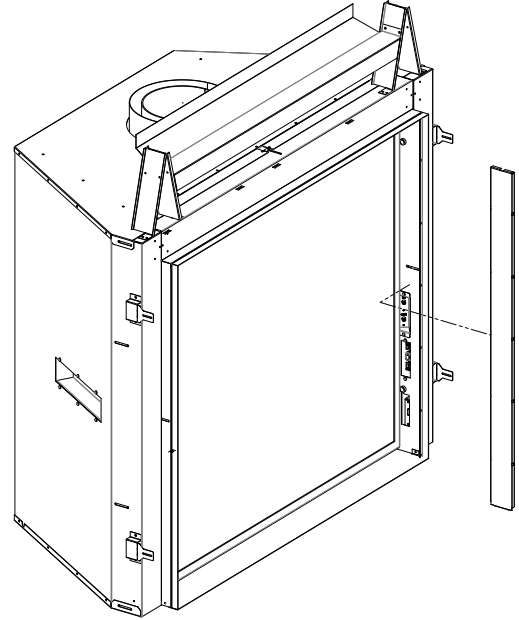

Figure 16: Side Panel Removal
3. A side cover can be found on the inner right side of the unit. It is held in place using two magnets. Gently pull the side panel out and away from the unit (see Figure 16).
- Pressure taps for the inlet (IN) and the manifold (OUT) *see page 49*